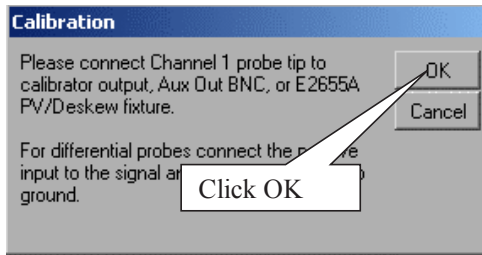

Figure 118 Calibration Window.
- 9 Referring to Figure 118 shown below, perform the following steps: